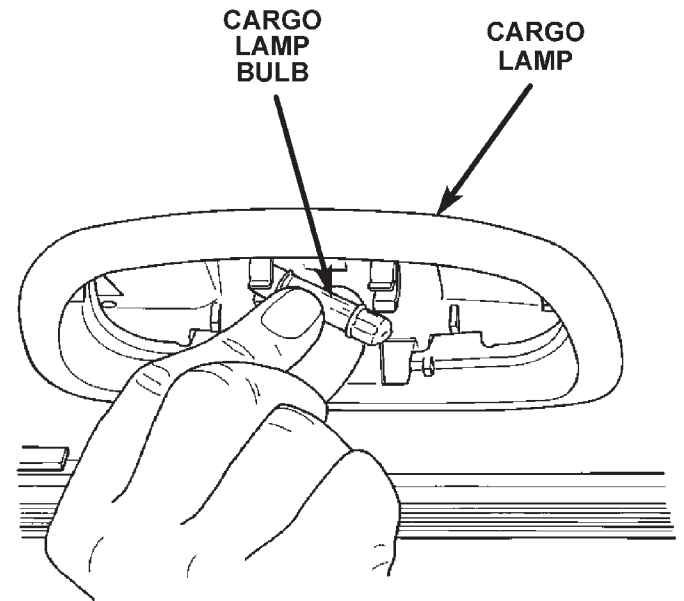

Fig. 8 Cargo Lamp Bulb
- (1) Using a small flat blade, pry forward corners of lamp lens from lamp.
- (2) Pull bulb from lamp (Fig. 8).